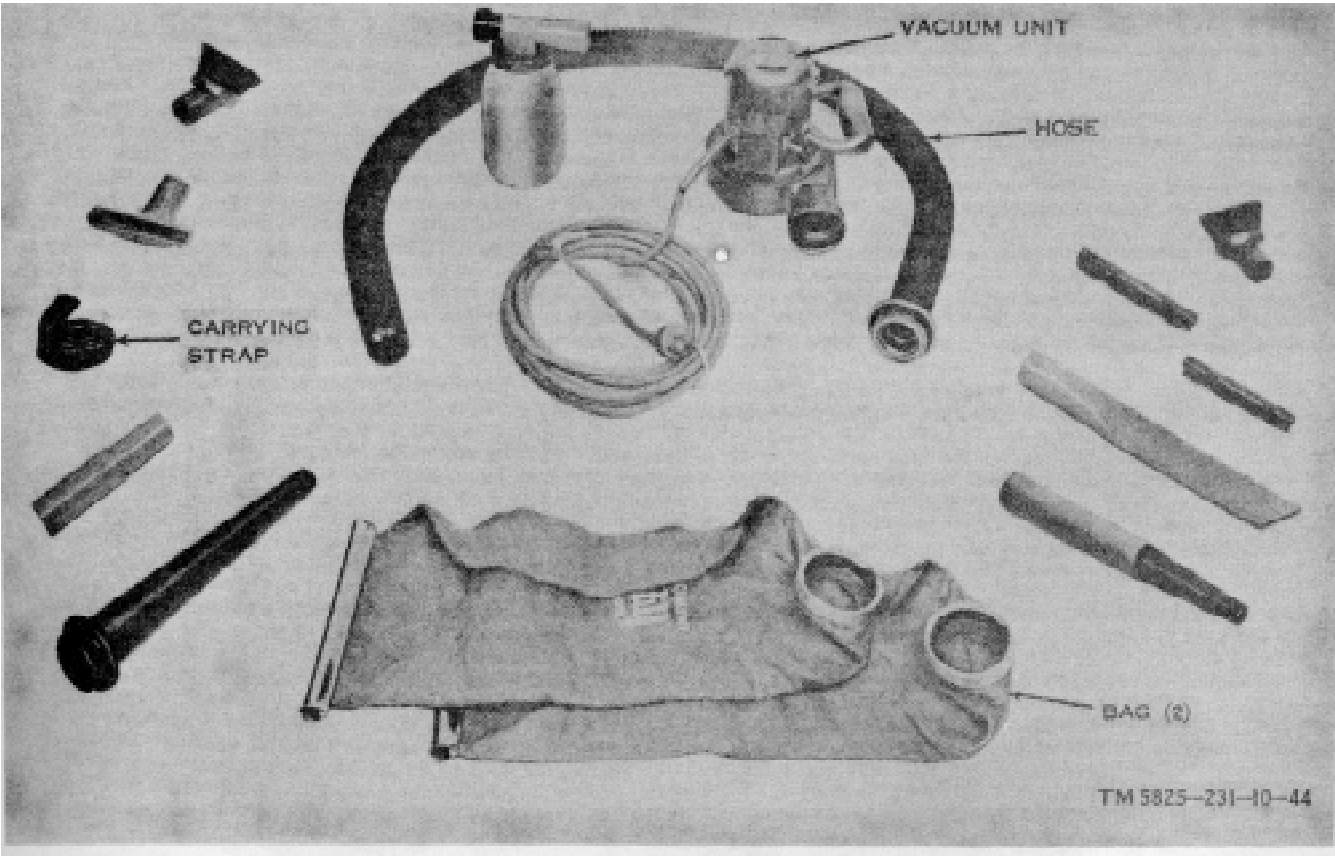

Figure 1-25. Vacuum cleaner.
c. *Vacuum Cleaner*. The vacuum cleaner and its accessories are shown in figure 1-25.